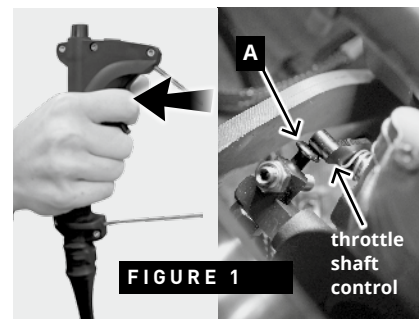
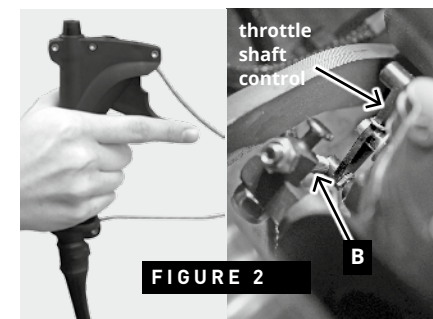

FIGURE 1
FIGURE 2
Step 1: If the throttle trigger on the control handle is in the extreme position (pressed), the throttle shaft control must be in position A – FIGURE 1. Step 2: If the throttle trigger is in the other extreme position (released), the throttle shaft control must be in position B – FIGURE 2.